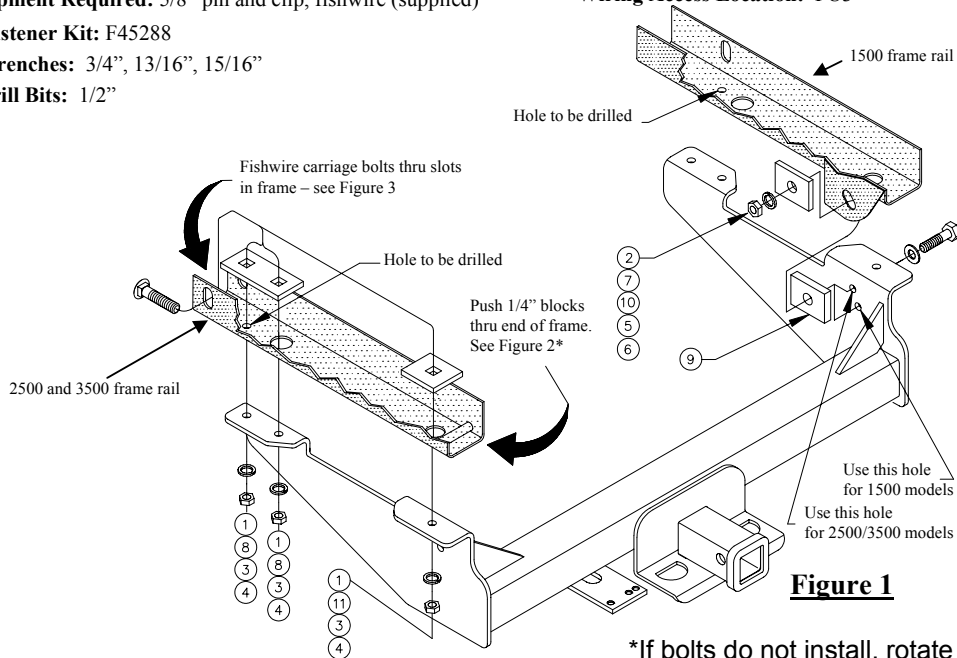

Figure 1
2. Install hex bolt and flat washer thru hole in hitch side bracket into slot in bumper bracket, each side (see figures 1 and 5). See Figure 1 for proper hole. Secure with 1/4 x 1-1/2 x 2 block, lock washers and nuts. See figures 1 and 5 for fastener orientation. **NOTE:** If necessary, install 3/8 x 1-1/2 x 3 block between hitch side bracket and vertical bumper bracket as shown in Figure 1.